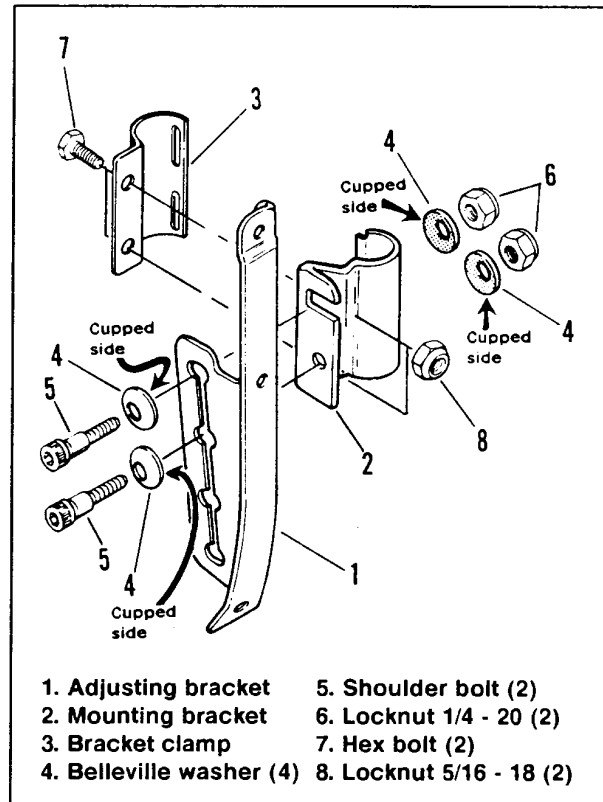

Figure 3. New Compact Windshield Mounting Hardware -- Right Side
4. Loosen hex socket head pinch screw (2) on right side of front fork lower bracket only enough to allow you to pivot the windshield right mounting bracket (4) forward somewhat. Pivot the mounting bracket (4) forward to expose open pinch screw hole in right side of front fork upper bracket.
6. Remove hex socket head pinch screw (2), washer (3), windshield right mounting bracket (4), and spacer (1 or 5) from front fork lower bracket; discard screw, washer, mounting bracket, and spacer. On models with fork-mounted directionals, lift right directional lamp assembly away from front fork lower bracket; let directional lamp hang by its wiring.
8. See Figure 3. Loosely install new windshield right mounting bracket (2) and a windshield mounting bracket clamp (3) from kit onto right front fork tube using two 5/16 - 18 x 5/8 in. hex flange bolts (7) and two 5/16 - 18 locknuts (8) from kit.